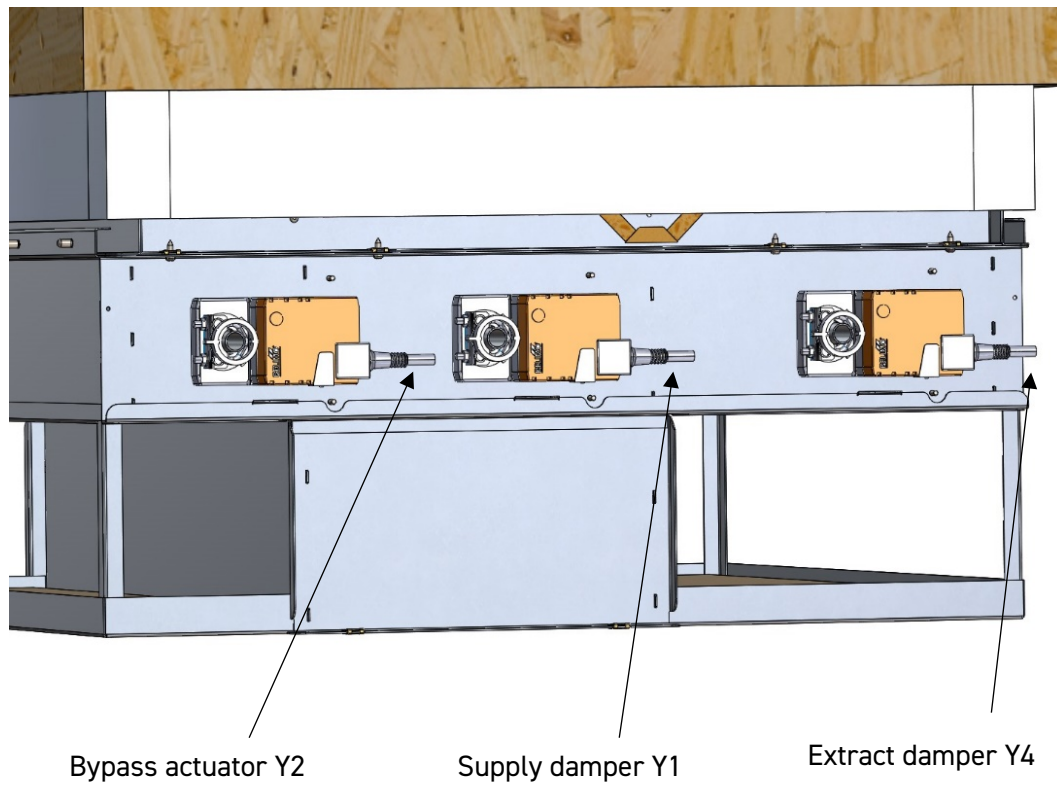

Figure 53 – Actuator locations.
5. You will need to connect the 3 internal actuators to a 24V DC power supply – see figure 53.